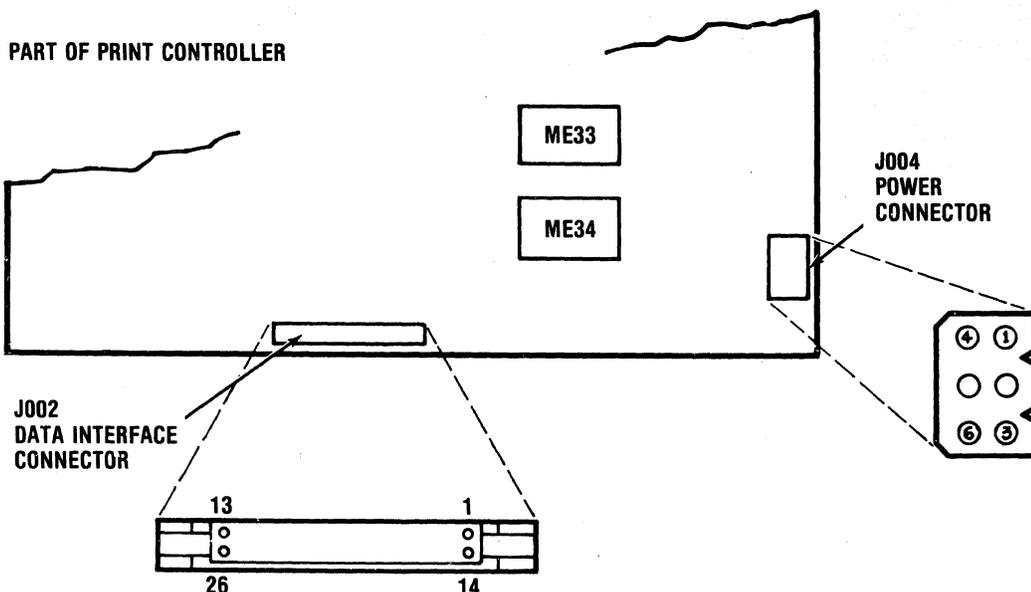

Figure 2-2 Data Interface and Power Connector Location
2.2.1 POWER CABLE—The customer-supplied Power Cable must be terminated at one end with a 6-pin connector compatible with the power connector J004, Molex receptacle, part number 1261-(03-09-1063) (Centronics P/N 31340006-1002), located on the Print Controller. See Figure 2-2 for location of connector J004. Pin-out identification and functional description is given in Table 2-1 below.
2.2.2 DATA INTERFACE CABLE—The customer-supplied Data Interface Cable should be constructed using 26-wire ribbon cable with a maximum cable length of 6 inches (15.3 cm) and terminated at one end with a 26-pin connector compatible with the 26-pin Data Interface connector J002, T&B/Ansley part number 609-2629M (Centronics P/N 31240052-1002), located on the Print Controller. See Figure 2-2 for location of connector J002. Refer to Table 2-2 for pin identification and functional description.